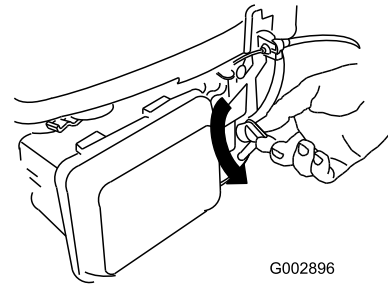

Figure 15
1. Turn the fuel valve lever to the On position (Figure 15).